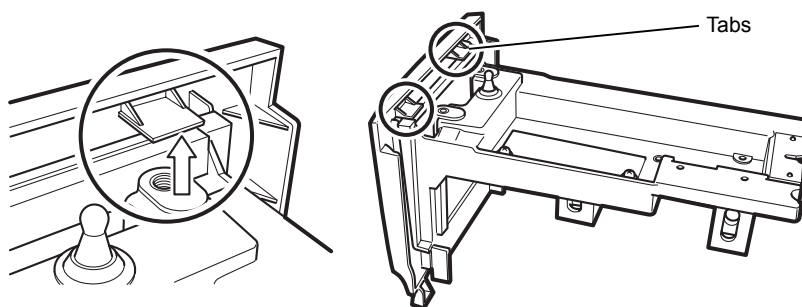
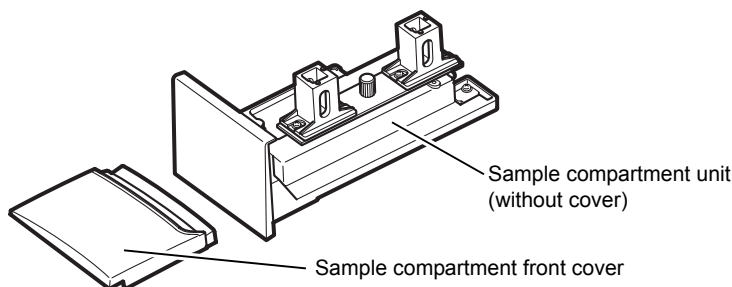

Fig.5-12 Tabs on the Sample Compartment Front Cover
Fig.5-13 Sample Compartment Unit
- 2 Turn the sample compartment unit upside down. Press the two tabs (2 places) on the cover in the direction of the arrow (see Fig.5-13) and remove the sample compartment front cover from the unit as shown in Fig.5-12.